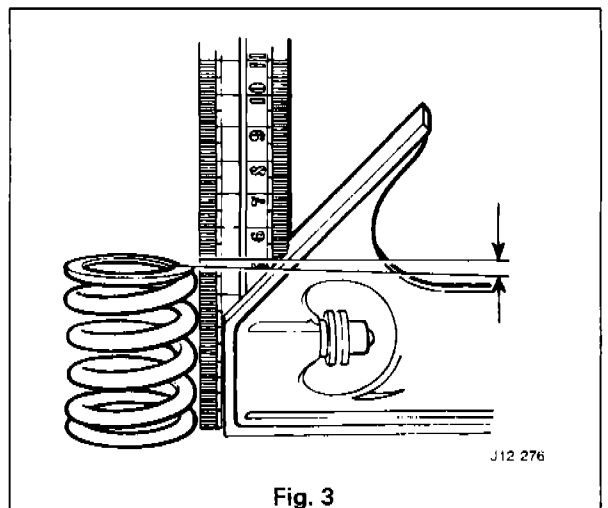

Fig. 3
- Spring distortion is determined by positioning the spring upright on a surface plate and checking the squareness of each end with a set square (Fig. 3).